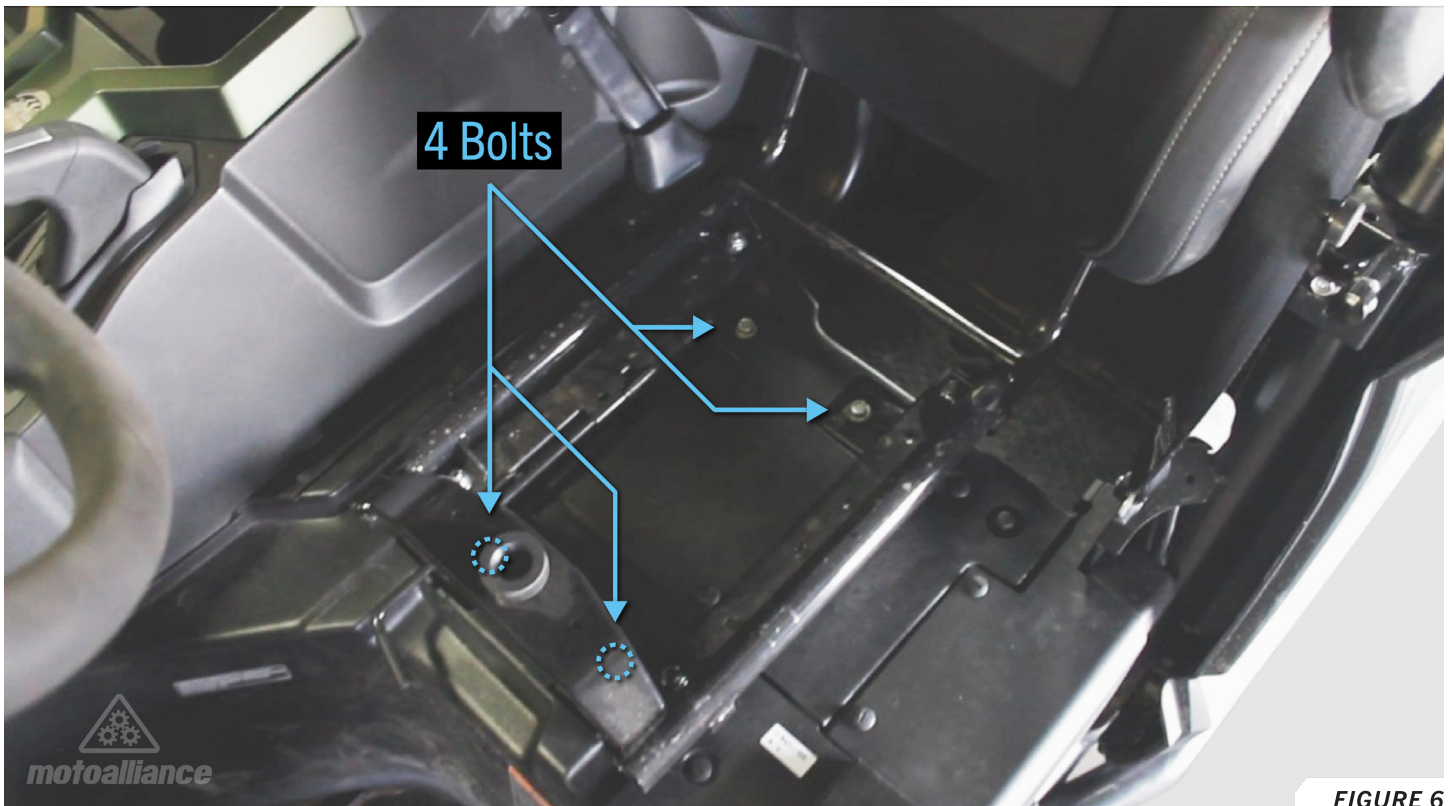

FIGURE 6
16. Pull out the bottom of the front 2 seats, then remove the bolts holding in the front 2 seats. Remove the front 2 seats from the vehicle and set aside. **FIGURE 6**